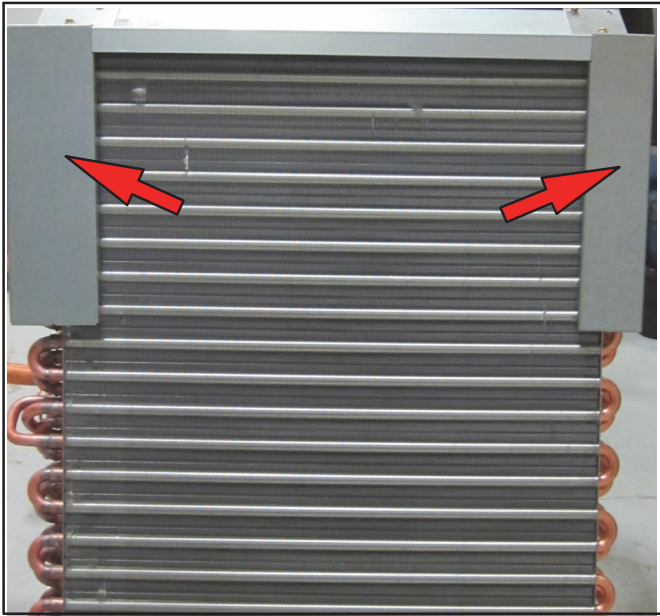

FIGURE 7. Reinstall the Top Cap. Brackets Must Cover the Hairpins
- 5 - Rotate drip pan 180° and reinstall on coil as shown by the arrow above. Reinstall the top cap. Rotate the blow-off prevention brackets 180° and reinstall using the same screws. Use the correct mounting holes; the brackets must cover the hairpins. See figure 7.